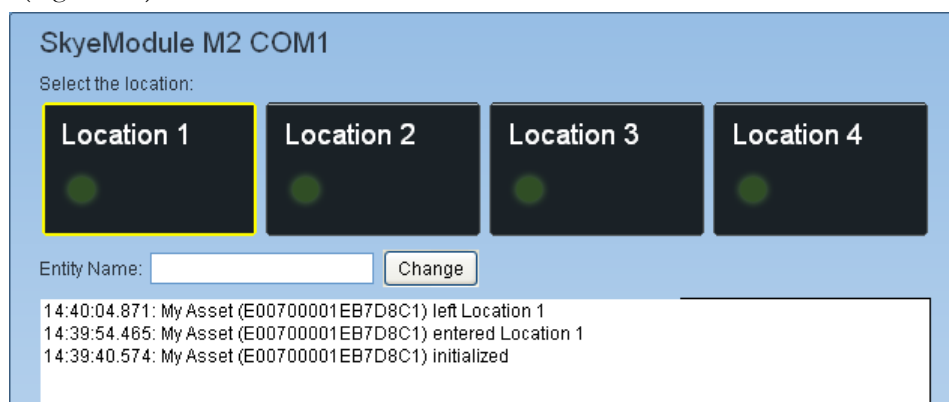

Figure 4-5 Initialized Tag at Location 1
3. (Optional) Give the tag an alias by typing a name in the Entity Name field, and then clicking the **Change** button. The data display area shows the new alias in the list of events (Figure 4-5).